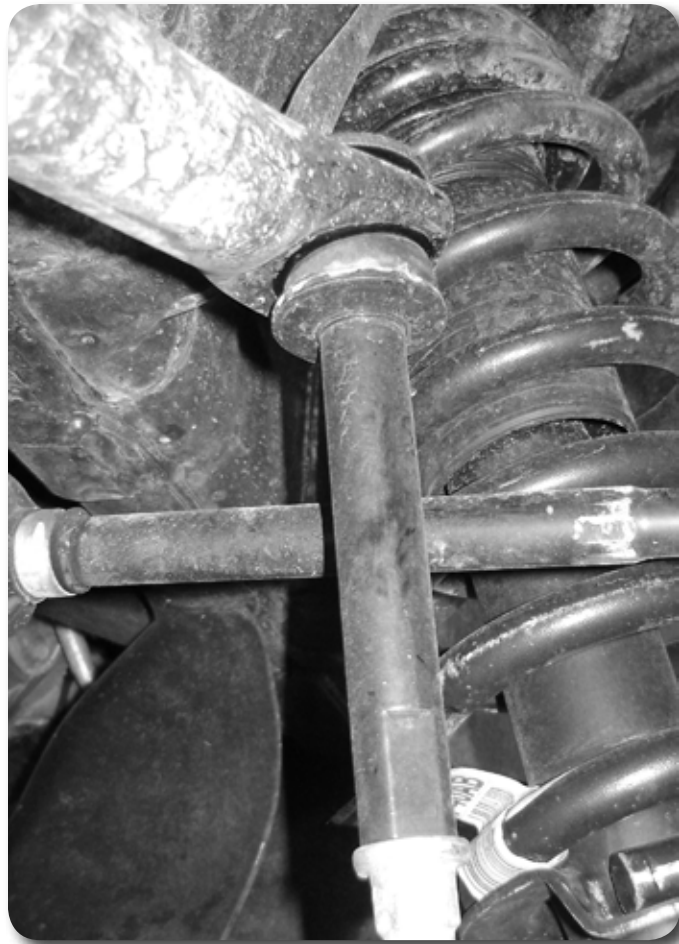

Figure 21
61. Install the sway bar link extensions onto the factory sway bar links. Reattach the sway bar with factory bushings, new cup washers, and new 7/16 nuts. Tighten until the bushings begin to swell - Do NOT overtighten, this will cause premature bushing wear. Figure 21